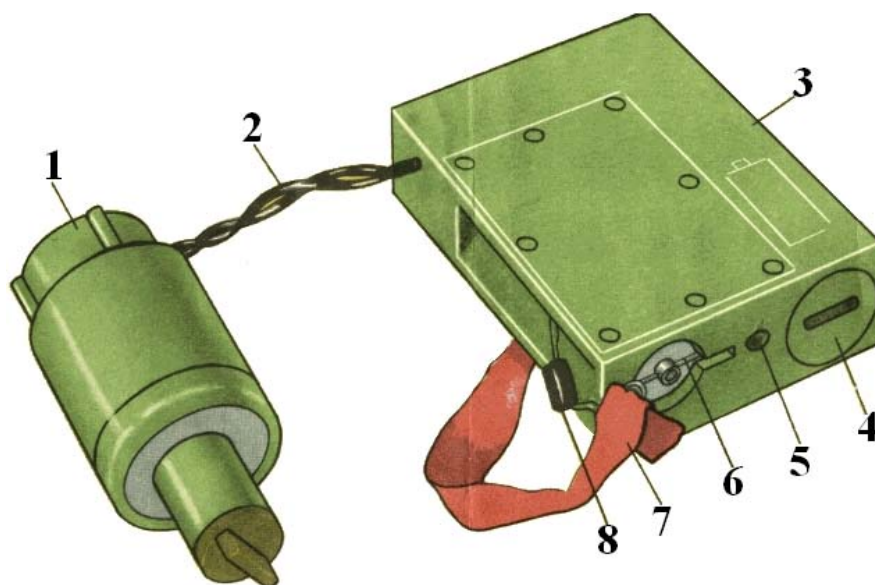

Fig. 1 MVE-NS mine fuze (general view):
MVE-NS mine fuze consists of two units: cylindrical activating unit (AU) 1 and square power unit (PU) 3. Both units are connected by two wires 2 (see fig. 1).